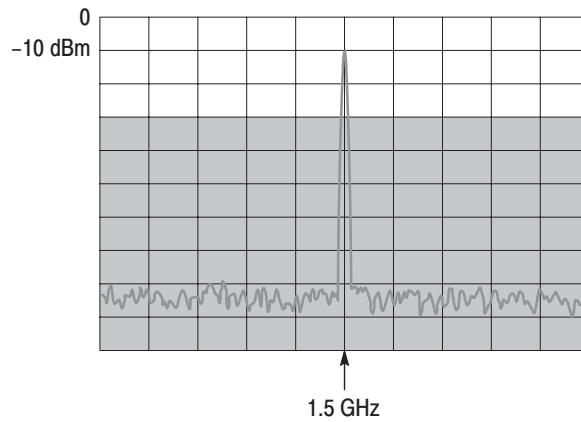

Figure 11: Spectrum display after the trigger event
c. Check that the trigger occurs. The analyzer stops data acquisition, showing the signal peak on the spectrum view as shown in Figure 11.